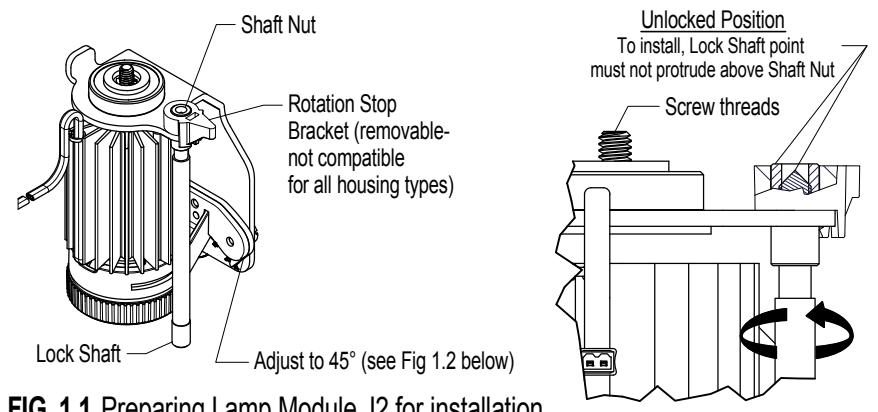

FIG. 1.1 Preparing Lamp Module J2 for installation
Step 1 Before installing Lamp Module, make sure correct LED Power Supply Module is installed & Lock Shaft is in unlocked position - FIG 1.1.